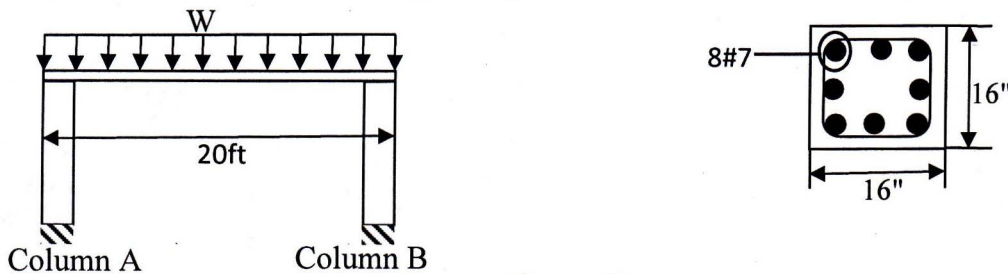

Figure: 01
1. (a) What is transformed RC section? Explain with reference to cracked and uncracked section. (03)
- (b) Calculate the ultimate value of W in beam AB if columns A and B are both made of (16" x16") RC sections and eight No.7 bars as shown in Fig. 01. Also, calculate the stresses in concrete and steel when the section is subjected to one-fourth its ultimate load. (07)